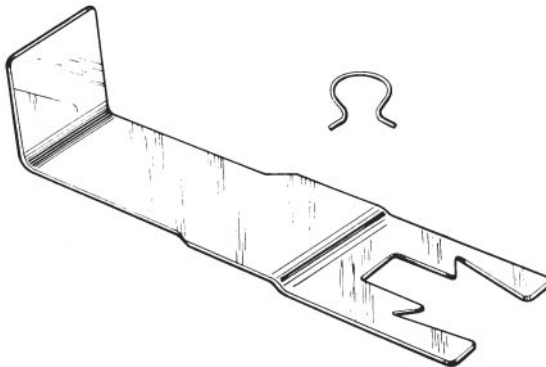

Figure 2.31 A door handle clip tool helps remove the retainer clip that secures an automobile's door handle to the door. (A-1 Security Manufacturing Corp.)
- Door handle clip removal tool (Fig. 2.31)